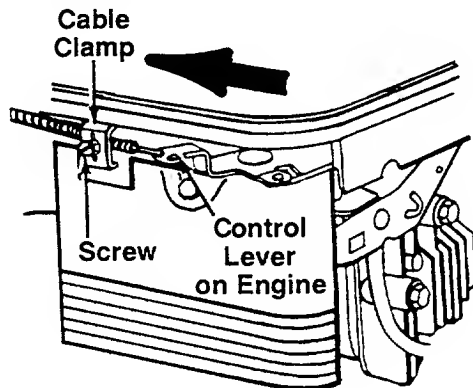

FIGURE 17.
1. Remove the screw shown in figure 17. Remove the cable clamp from the cable.